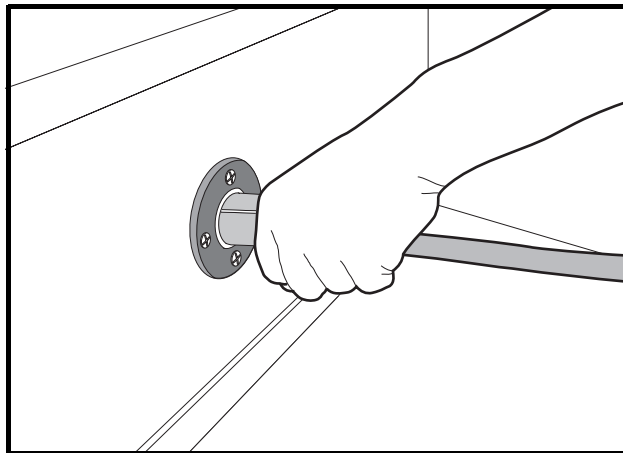
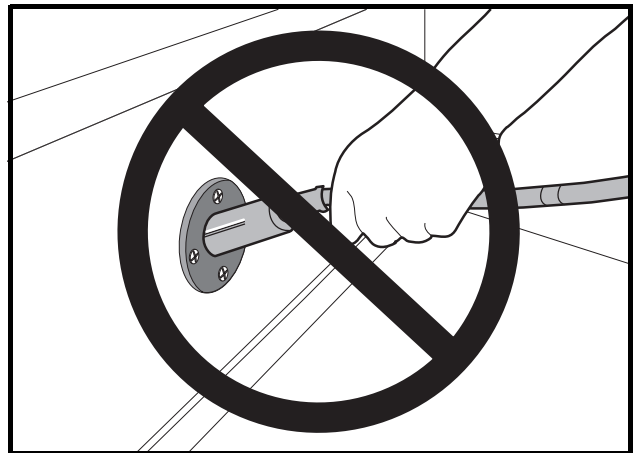

Figure 5-4 Charger Receptacle
Figure 5-5 Incorrect Charger Cord Removal
- The battery charger DC plug must be pulled slowly from the receptacle (Figure 5-4, Page 5-7). Jerking or pulling the DC cord out quickly could cause arcing that could damage the plug and receptacle and could cause batteries to explode (Figure 5-5, Page 5-7).
- Do not rock or bend the plug. To connect the charger plug to the vehicle receptacle, grasp the plug handle and push the plug straight into the receptacle (Figure 5-4).
- Do not pull on the DC cord (Figure 5-5). Do not twist, rock or bend the plug. To disconnect the charger plug from the vehicle receptacle, grasp the plug by the handle and pull the plug straight out of the receptacle.
2. Connect the charger DC plug to the vehicle charger receptacle located on the seat support panel (Figure 5-4, Page 5-7). The charger will activate automatically within 2 to 15 seconds after the DC plug is connected. **See following WARNING.**
- Do not rock or bend the DC plug. To connect the charger plug to the vehicle receptacle, grasp the plug handle and push the plug straight into the receptacle (Figure 5-4, Page 5-7).
When inserting the DC plug into the vehicle receptacle, align the raised guide on the plug with the guide slot in the receptacle and slowly push the plug straight in (**Figure 5-4, Page 5-7**). To disconnect the plug from the vehicle, firmly grasp the plug, not the cord (**Figure 5-5, Page 5-7**), and slowly pull plug straight out. **See following WARNING and CAUTION.**
- Do not rock or bend the plug. To connect the charger plug to the vehicle receptacle, grasp the plug handle and push the plug straight into the receptacle (**Figure 5-4**).